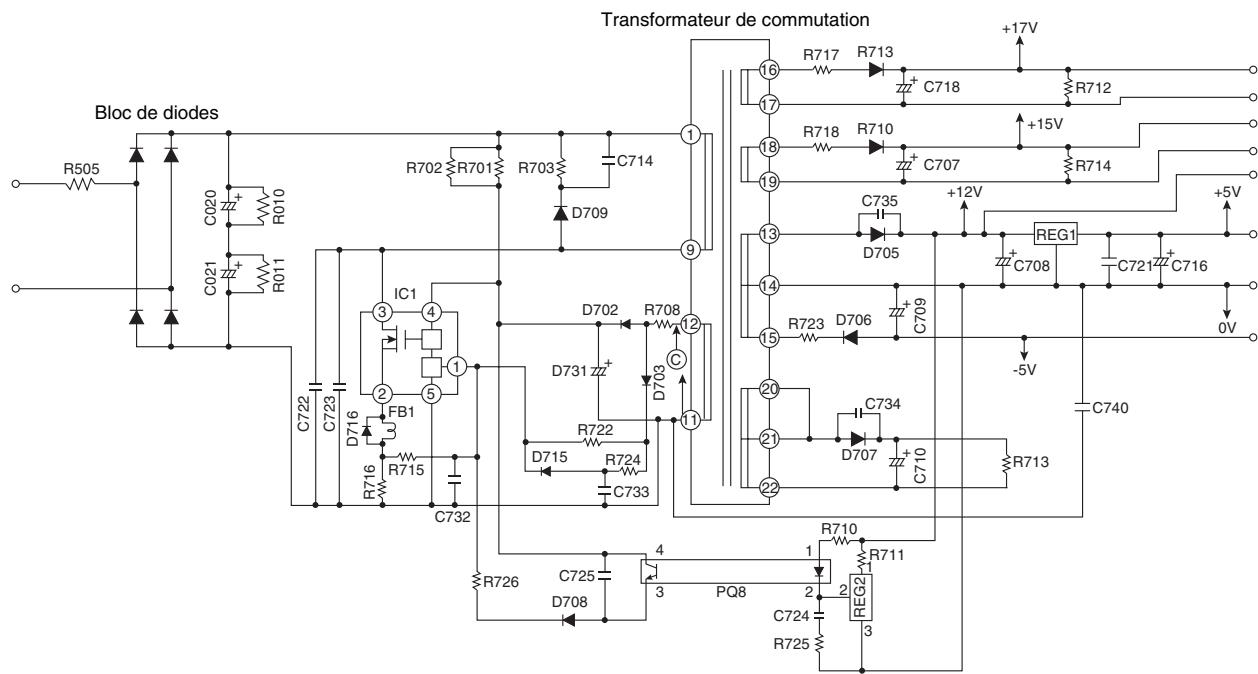

Fig. 4-1 Circuit d'alimentation pour le circuit imprimé.
(1) Shifting from OFF to ON
- DC about 330V is applied from smoothing capacitors C020 \oplus and C021 \ominus in the control power circuit. With this power, current flows to pin ④ of IC1 via R701 and IC1 starts to turn ON. Since voltage in the direction of arrow generates at point ⑩ at the same time, current passing through R708 and D702 is positive-fed back to IC1.
- La figure 4-1 représente le circuit d'alimentation pour le circuit imprimé et la forme d'onde à chaque point.